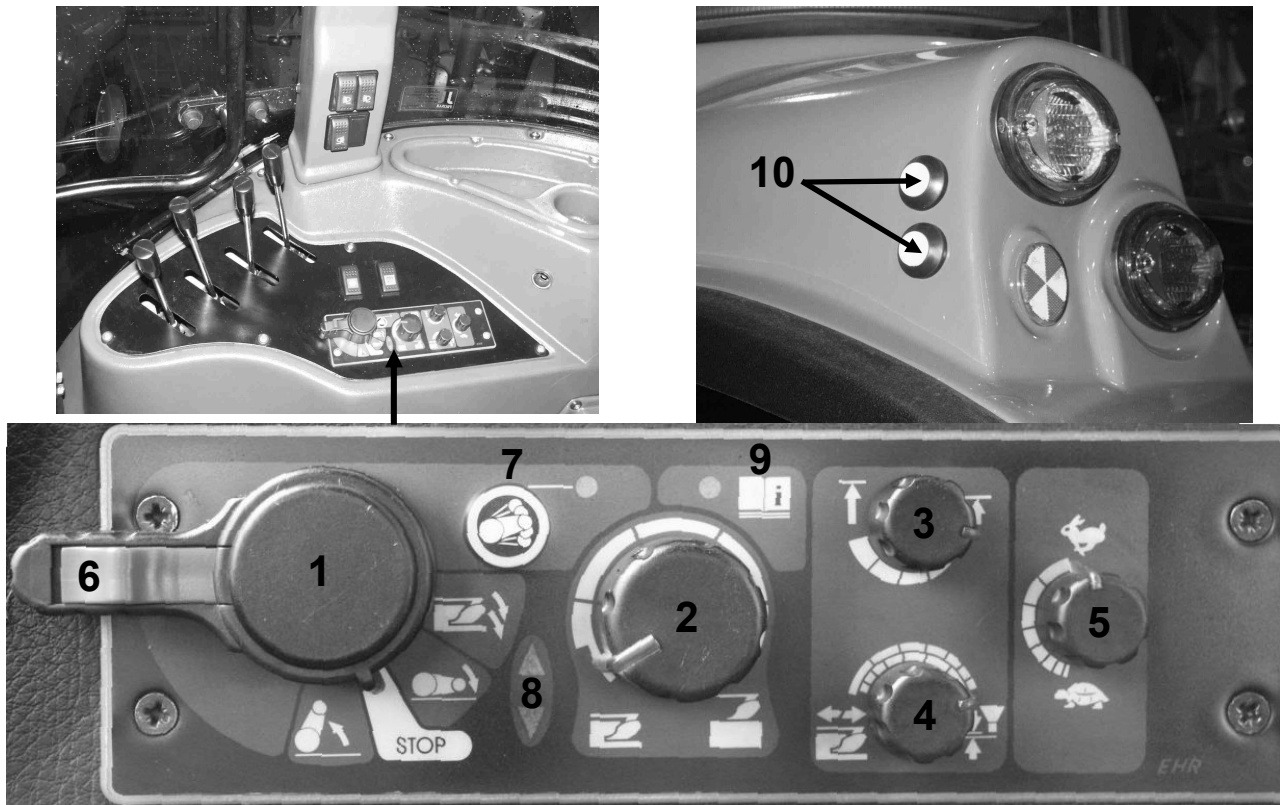

Fig. E-42 Control panel of the EHR electro-hydraulic system.
Controlling of the electro-hydraulic system of the rear hitch is realised from the control panel (**Fig. E-42**) situated on the right side of the seat and additional push buttons for raising and lowering of lower pull rods situated in the rear at mudguards on both sides of the tractor (**Fig. E-19, pos. 10**) (they are used during coupling of agricultural machines and tools).
- with the knob **4** (**Fig. E-42**) set the method of tool adjustment (position, force or mixed), depending on work type;
It is prohibited to operate the tractor if the hydraulic pump is defective, i.e. if the lamp **8 (Fig. E-42) does not go off after hoisting of the tool.**
- set the lever **1** (Fig. E-42) to the position „hoisting” (in this moment the tool goes to the upper extreme position) and lock the tool in transport position with the push button **6**;
- 1. The oscillation damping function works only when the lever **1** (Fig. E-42) is in the „hoisting” position and when the tool is locked in transport position with the push button **6**.**